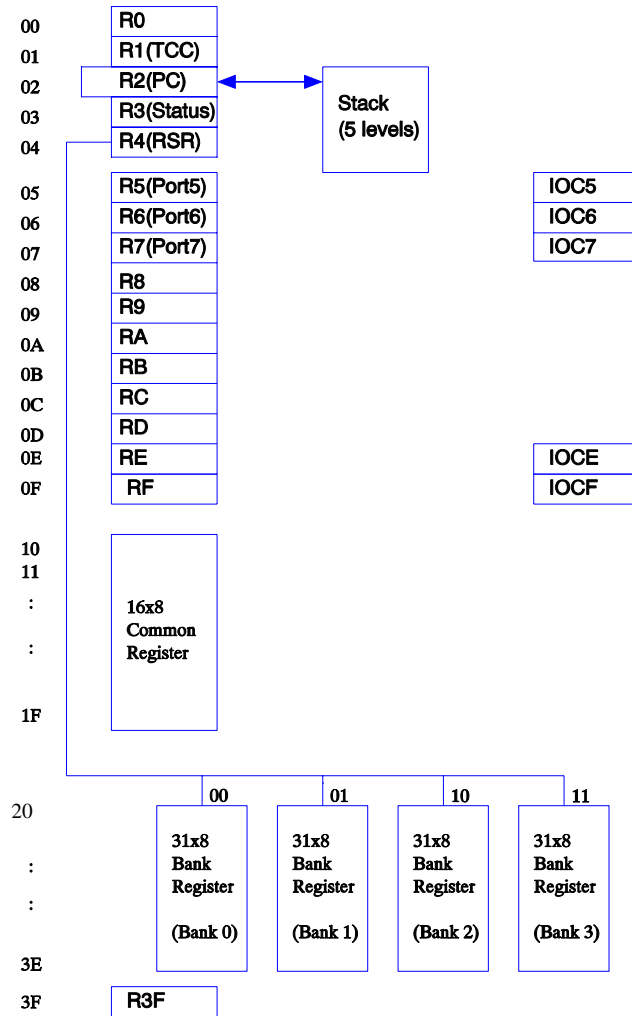

Fig. 4 Data memory configuration
- See the configuration of the data memory in Fig. 4.